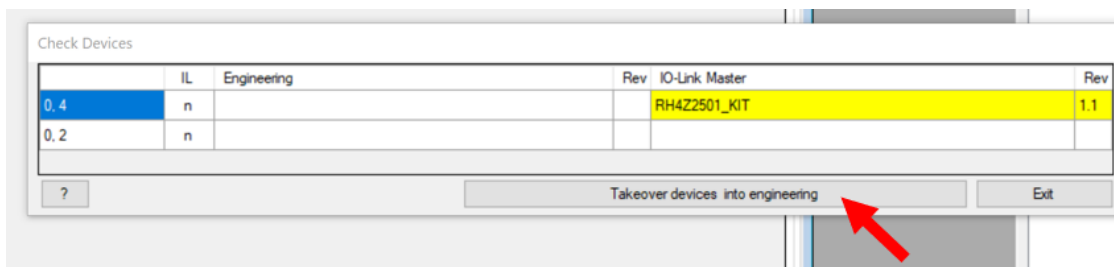
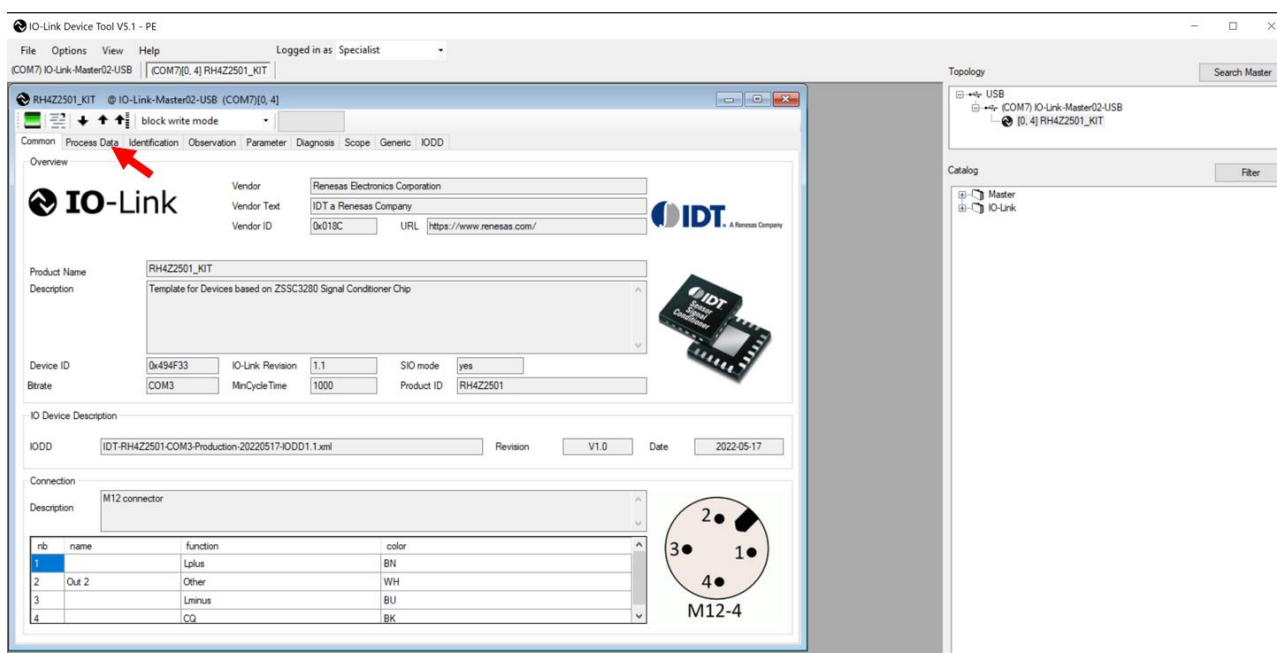

Figure 6. Takeover Devices
Figure 7. Opening the Process Data Tab
- d. Click on “Takeover devices into engineering” (see Figure 6). The window shown in Figure 7 then appears.
- a. Open the “Process Data” tab in the “RH4Z2501_KIT” window (see Figure 7).